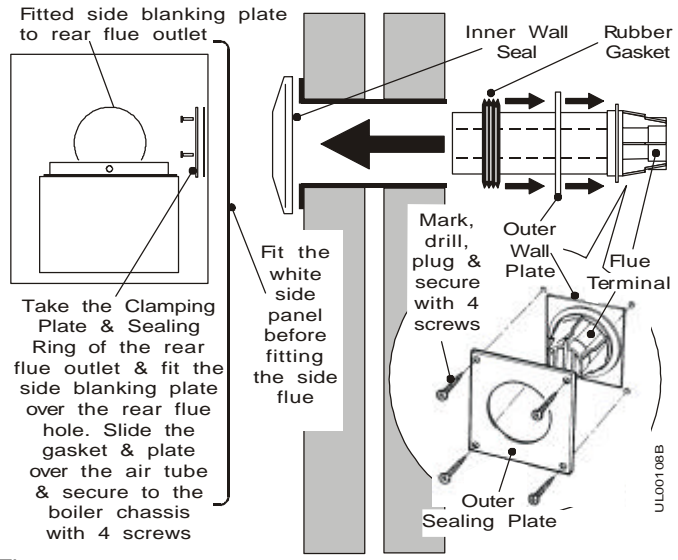

Fig. 19
17. Slide the sealing ring and clamping plate over the flue and push up to the boiler chassis. Secure using the four screws previously removed. See Fig 19.